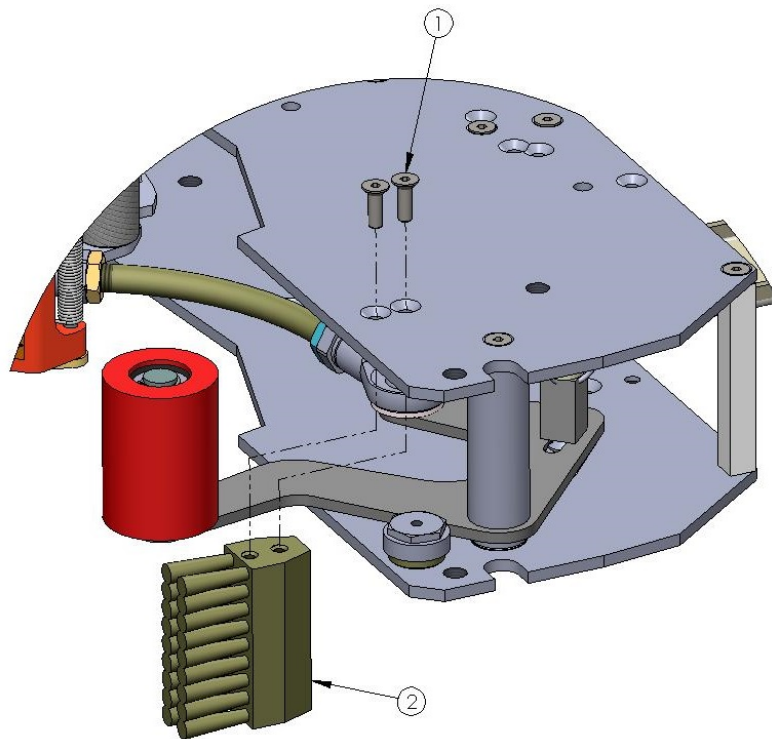

Figure 10-19
3. Install new brush with 2 M5 flathead countersink screws as shown in **Figure 10-19**